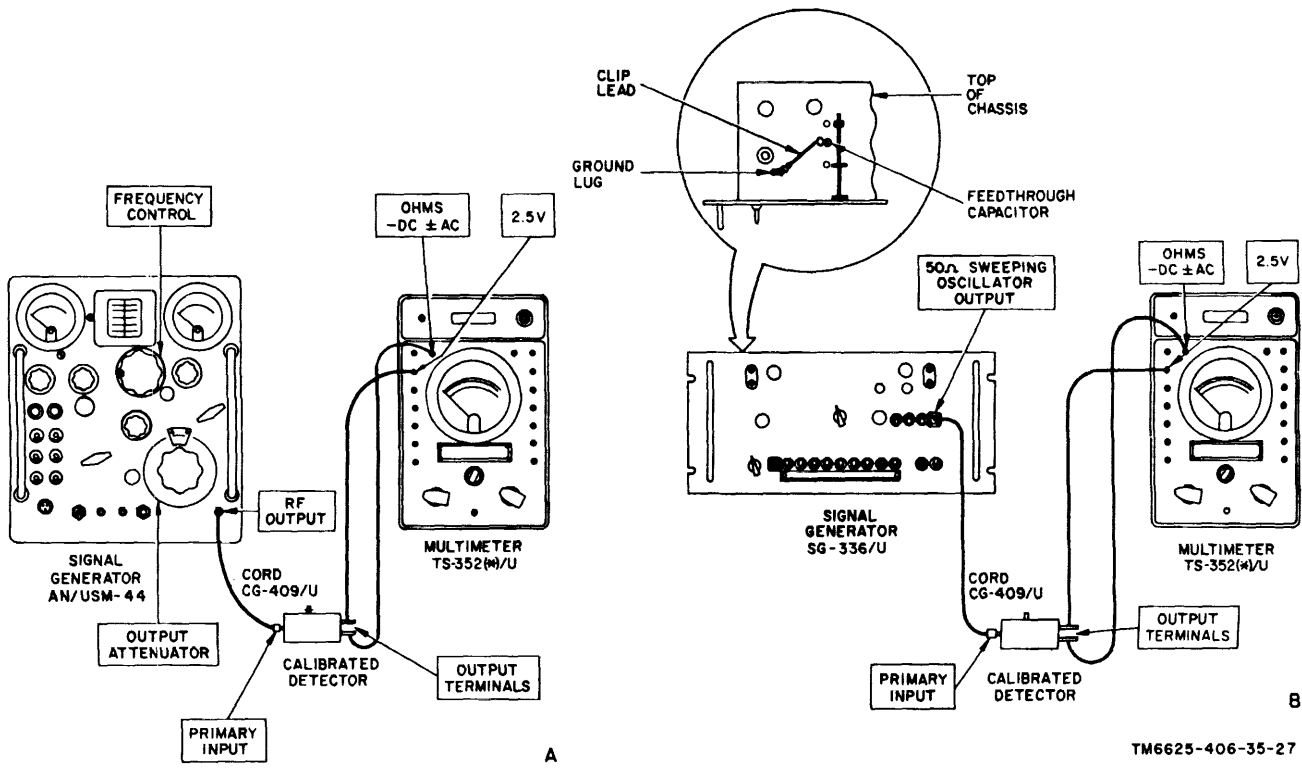

Figure 22. Output amplitude test connections.
- (1) Multimeter TS-352(\*)/U.
- (2) Signal Generator AN/USM44.
*b. Test Connections and Conditions.* Connect the test equipment as shown in A, figure 22.